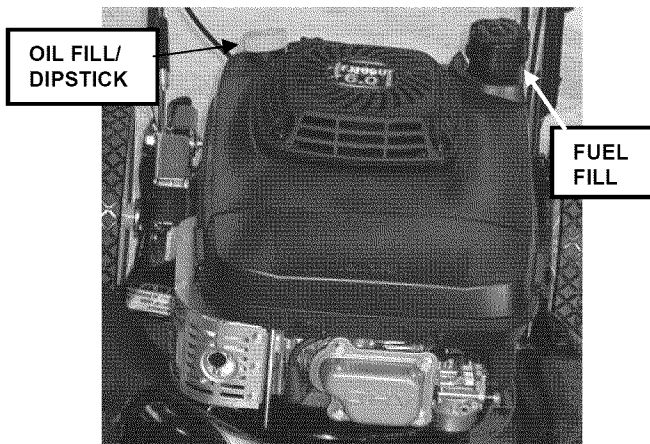

FIGURE 2.2
2.1.4. Check engine oil and add as needed to bring level up to 'full' mark on dipstick. See Figure 2.2. (Kawasaki engine shown, fuel and oil fill locations may vary with engine.) Refer to Engine Owner's Manual for oil specifications.
2.1.5. Add fuel to tank. See Figure 2.2. Fuel mower outside where fumes can safely dissipate. Make sure cap is tightened after refueling. Refer to Engine Owners Manual for fuel specifications.